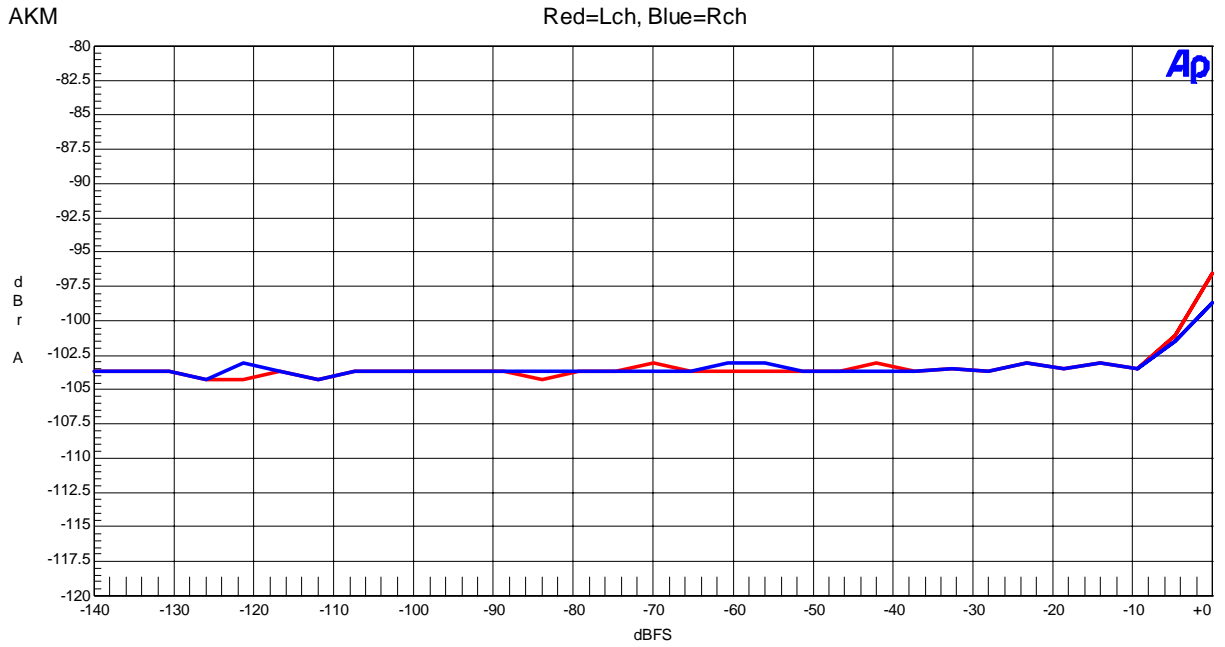

Figure 27 THD+N vs Input Level (fin=1kHz)
- Figure 27 THD+N vs Input Level (fin=1kHz)